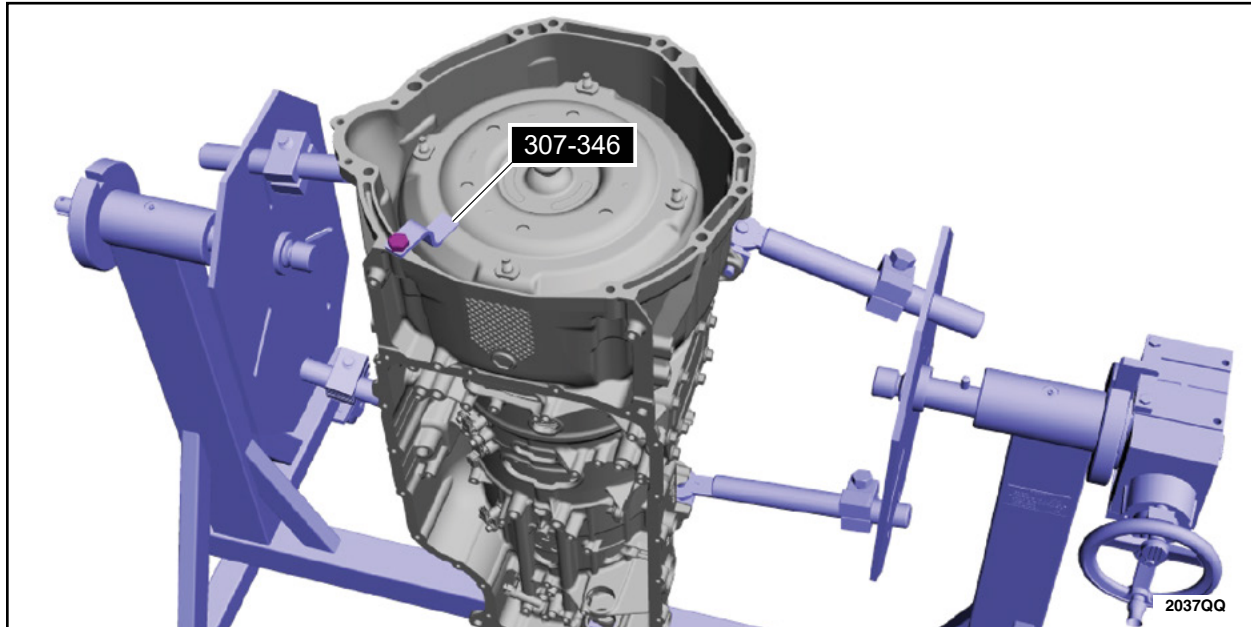

FIGURE 36
38. Install special tool 307-346 to hold the torque converter. See Figure 36.